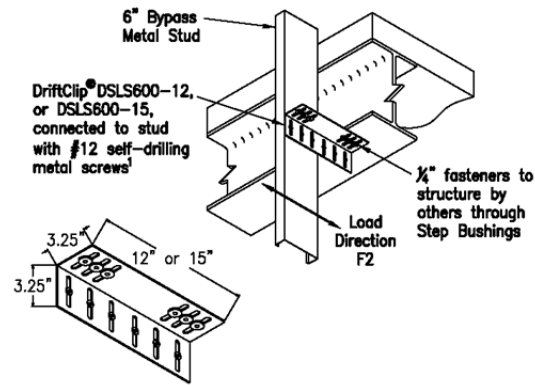

Figure 2 – DriftClip[®] DLSL600-12 and DLSL600-15
3.1.3 DriftClip[®] DSLS: DriftClip[®] DSLS600-12 and DSLS600-15 are L-shaped angles that connect 6-inch-deep (152 mm) cold-formed steel framing of exterior curtain walls to a building's structural steel spandrel beam or structural concrete floor slab, while allowing a maximum of 2 inches (51 mm) of vertical and horizontal movement between curtain wall elements and the primary structure. The minimum base-metal thickness of the clips is 0.0966 inch (2.5 mm). The -12 and -15 following the model number DSLS600 represent the total length, in inches, of the connector. The two legs of the DriftClip[®] DSLS600-12 and -15 connectors are equal in length, and each has two or three slots perpendicular to the heel of the angle, each $\frac{3}{8}$ inch (9.5 mm) wide by $2\frac{3}{8}$ inches (60 mm) long. The leg which is fastened to the curtain wall stud has bushings designed for No. 12 self-drilling/self-tapping steel screws installed in the centers of the slots. The other leg, which is fastened to the structure, has bushings designed for $\frac{1}{4}$ -inch-diameter (6.4 mm) fasteners installed in the centers of the slot. Refer to Figure 2 for overall dimensions of each DriftClip[®] DSLS connector and a typical installation detail.